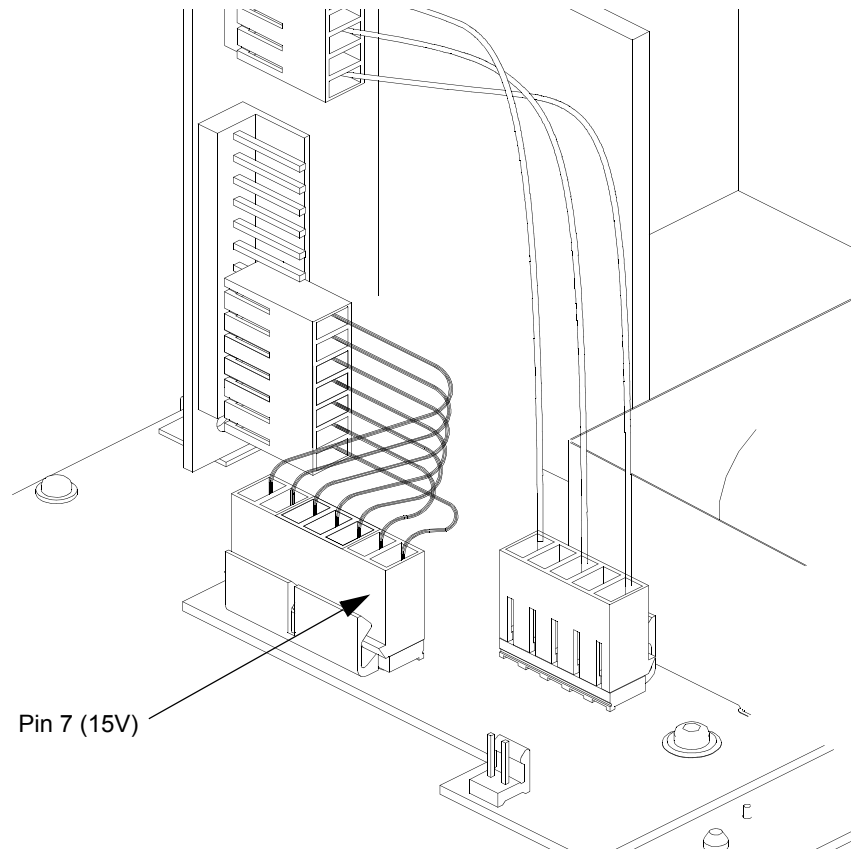

Figure 11 Power supply to AC input board connector
- 4 Measure the power supply voltage at J102, pin 7 on the AC input board (comes from the power supply connector's pin 1). See Figure 11. The voltage should be 15 V \pm 10%.